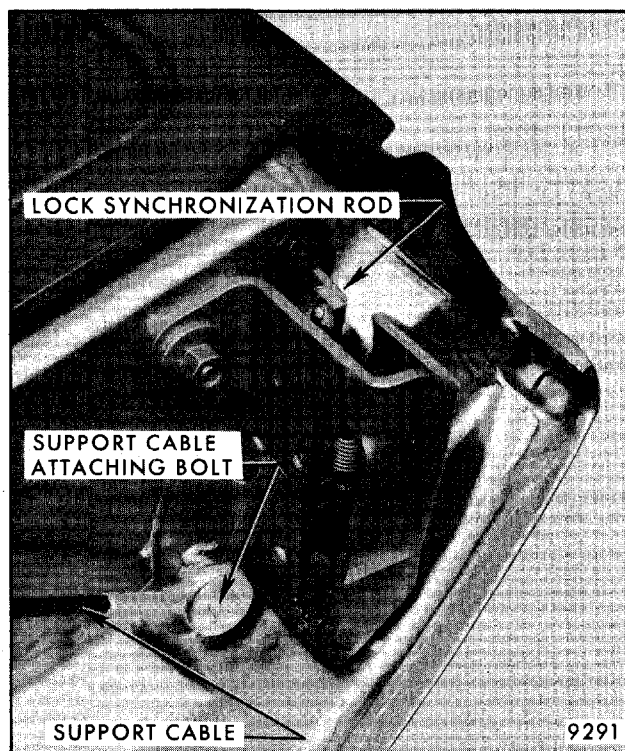

Fig. 7-150 - Tailgate Upper Left Lock Assembly
2. Support tailgate in a full-open position and remove support cable to left upper hinge striker assembly attaching bolt (Fig. 7-150).